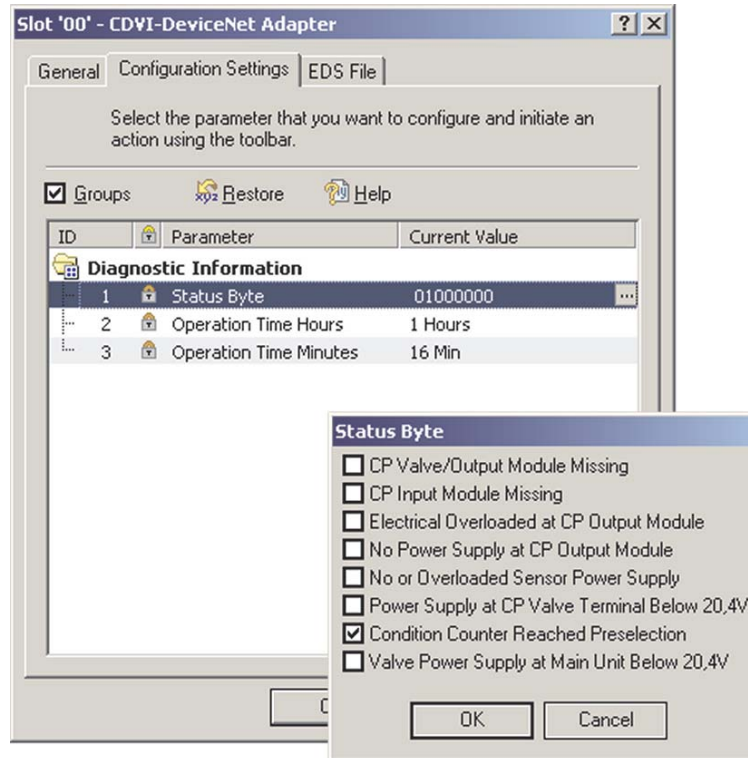

Fig. 3/2: Display of detailed information on diagnostics
4. Double click on the “Status Byte” parameter line. Detailed information are shown (see Fig. 3/2).